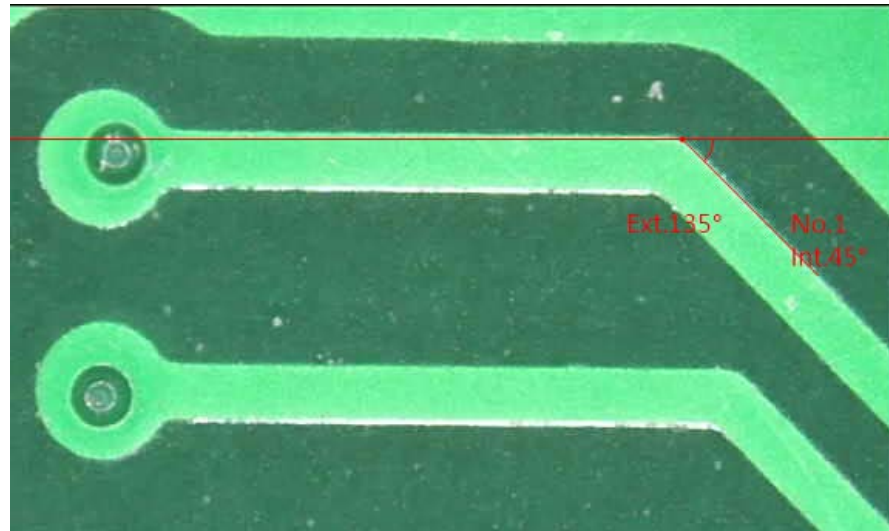

Fig 5-25 Horizontal Angle
- (14) Horizontal Angle : Measure any Horizontal Angle by a Horizontal line that can apply  tool. Draw a Horizontal line, auto pop up the other oblique line to the Horizontal line, then auto measure the inner Angle/ external Angle as Fig. 5-25 shown.